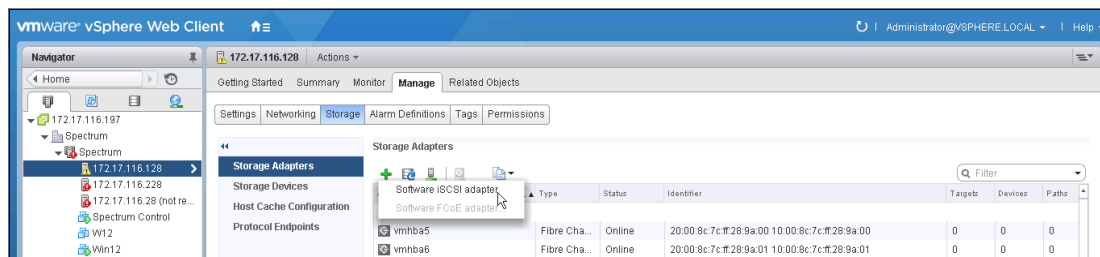

Figure 5-27 Add an iSCSI software adapter
10. Click the plus sign (+) to add an iSCSI software adapter (see Figure 5-27).